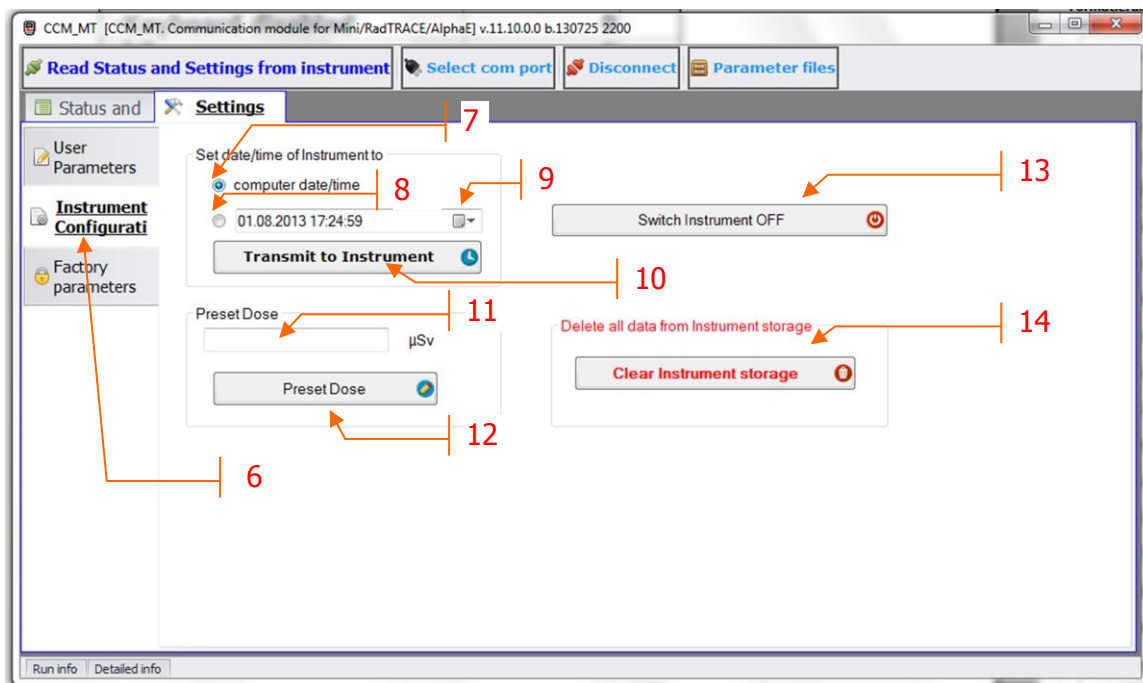

Figure 6: Main screen mask – Instrument configuration
Clicking the button "Instrument Configuration" (see 6, Figure 6) the dialog for basic settings is displayed.
- Date and time can be synchronized with the PC clock by checking the radio button "computer date/time" (see 7, Figure 6).
- Date/time can be edited after clicking the radio button beneath (see 8, Figure 6). Alternatively, the date can also be selected from calendar by using the pull down menu (see 9, Figure 6). For transmitting the new date/time settings press the button "Transmit to instrument" (see 10, Figure 6).
2. Pre- or re-setting of the dose. Enter any value; for re-setting enter "0" (see 11, Figure 6). Press the button "Preset Dose" to transmit the setting to the device (see 12, Figure 6).
3. Switch off the *AlphaE* device by clicking on the button "Switch instrument OFF" (see 13, Figure 6).